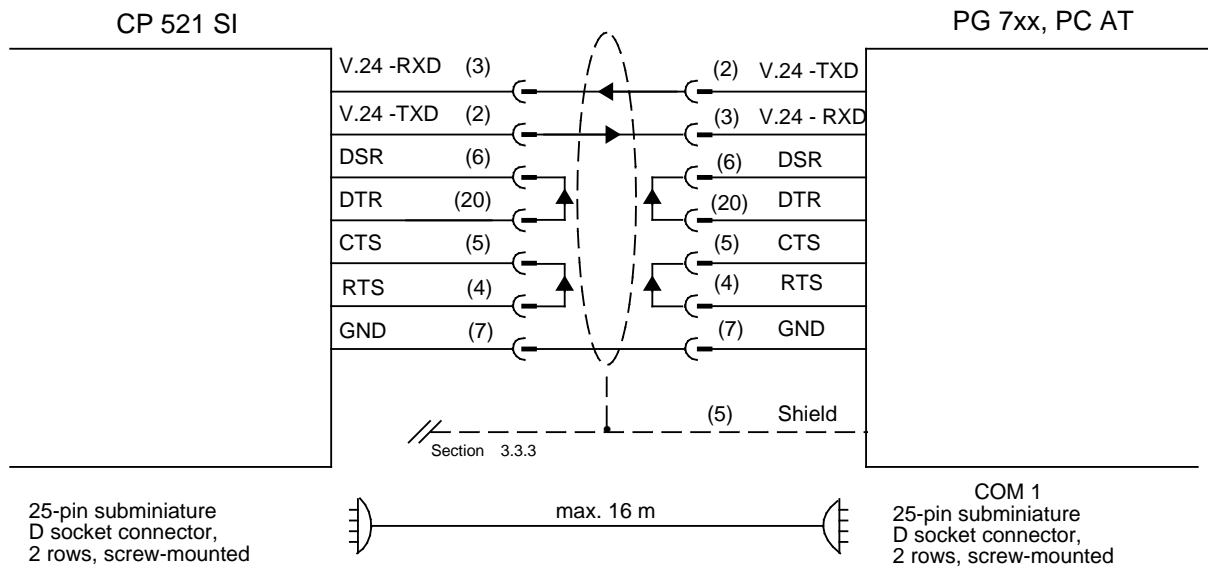

Figure D-8. Terminal Diagram CP 521 SI - COM 1 of a PG 7xx, PC AT (RS-232C/V.24 Interface)
- Connecting cable No. 9AB4173- ____ - ____ Cable for connecting the CP 521 SI to the **PG 7xx, PC AT, RS-232C (V.24)/COM 1** (Figure D-8)